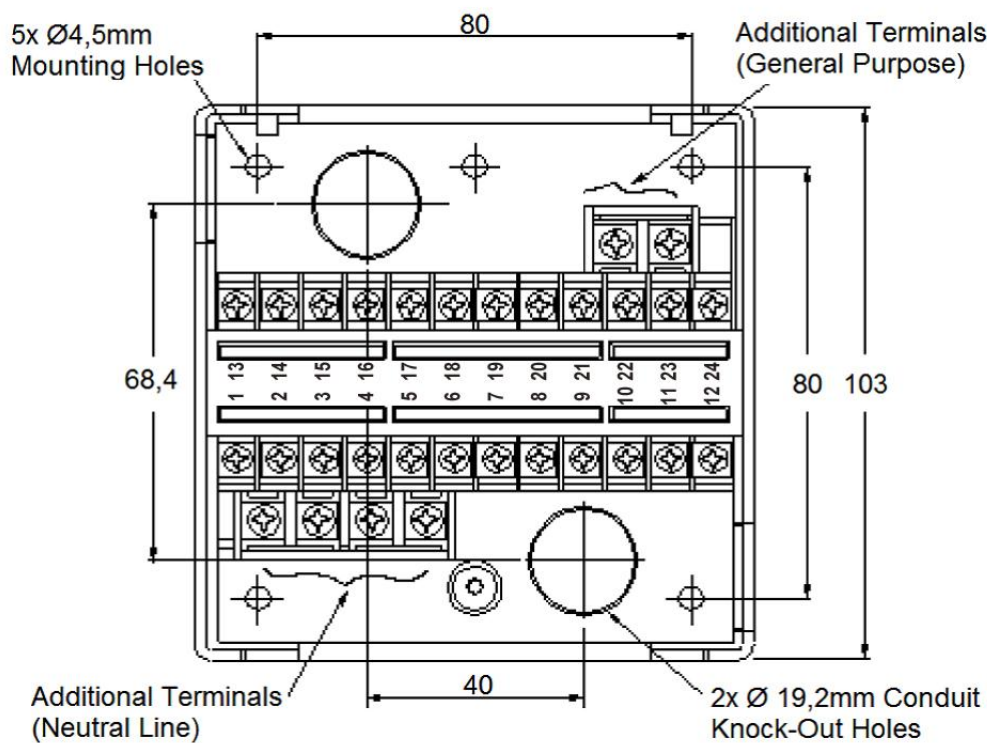
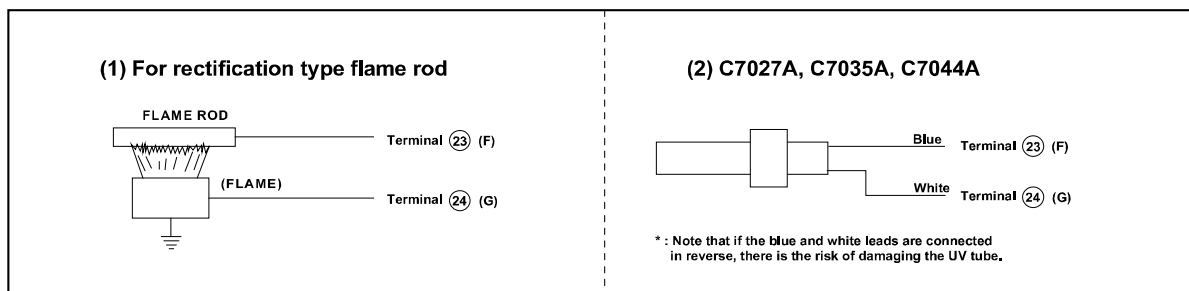

Fig. 2: Mounting dimensions of sub-base and terminal layout
Fig. 4: Connection to flame detector
1. Fig. 2 shows the layout of the terminals on the subbase, and Figs. 3-1 to 3-3 show examples of connections to external equipment. Regarding the wiring to the flame detector, refer to Fig. 4.